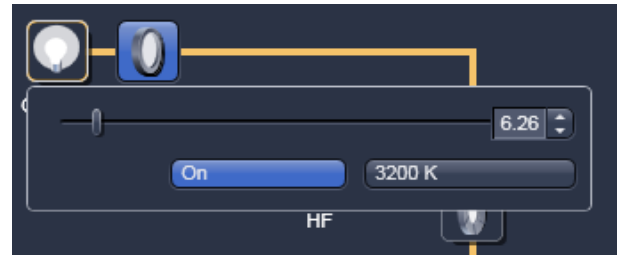

Fig. 353 Locate - Microscope Control tool
**HAL On/Off** button for transmitted light: If the button is pressed, the control panel appears and the shutter automatically opens (Fig. 353). If you press the **On** button, the light intensity of the HAL lamp can be varied via the input box or slider. The light path will be highlighted by color in the diagram. Press the **On** button again to shut down the light. The color temperature for photo documentation can be switched on via **3200 K** button.